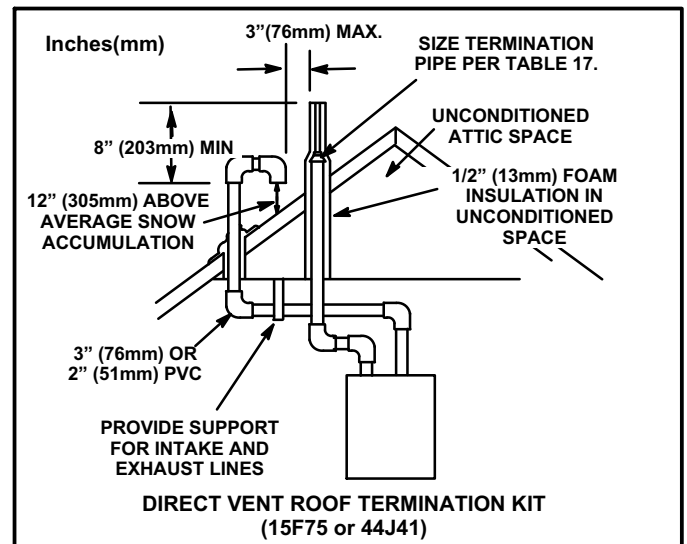

FIGURE 31
Intake and exhaust pipes may be routed either horizontally through an outside wall or vertically through the roof. In attic or closet installations, vertical termination through the roof is preferred. Figures 31 through 37 show typical terminations.
3. On roof terminations, the intake piping should terminate straight down using two 90° elbows (See figure 31).